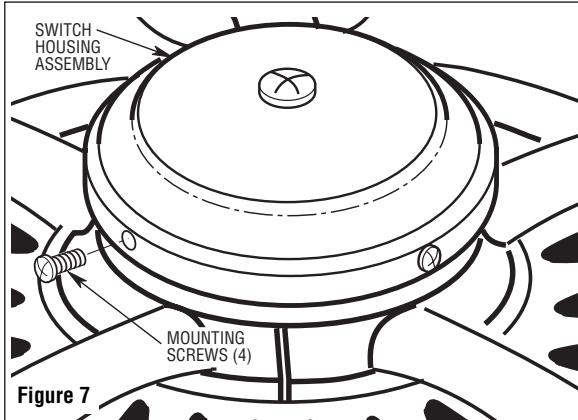

Figure 7
11. Remove the four switch housing mounting screws (Figure 7) from the switch housing plate. Position the switch housing assembly on the switch housing plate and align the holes in the switch housing assembly with the holes in the plate. Secure the switch housing assembly by installing the four screws (Figure 7).